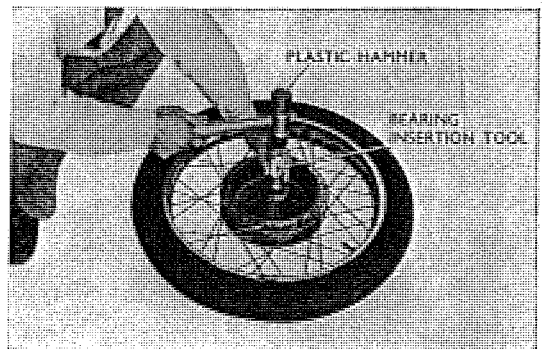

Fig. 4.90 Ball bearing positioning
2. Apply grease to ball bearing 6303 R, and the rear wheel hub. Insert the spacer and hit 6303 R ball bearing into position (Refer to Fig. 4.90)
- As ball bearing 6303 R employs ball bearing with dust seat, check the difference of the external and internal sides. (Refer to Fig. 4.90)